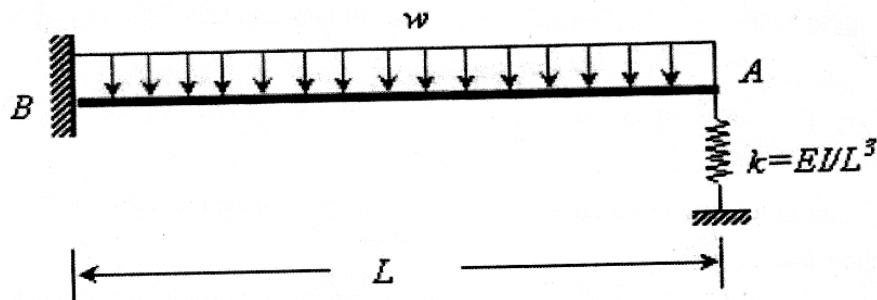

Figure. 5
16. (a) Determine the support reactions of the fixed beam with one end fixed and other supported on a spring as shown in Figure 5. The stiffness of spring is EI/L^3 . Find the spring deflection and neatly draw the bending moment diagram. (15)